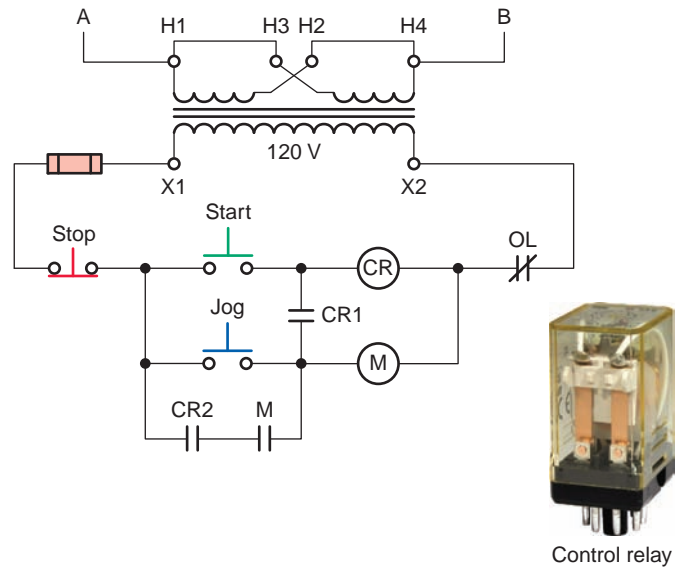

Figure 8-35 Jog circuit with control relay.
The control relay jogging circuit shown in Figure 8-35 is much safer than the previous circuit. A single-contact jog push button is used; in addition, the circuit incorporates a jog control relay (CR). The operation of the circuit can be summarized as follows: